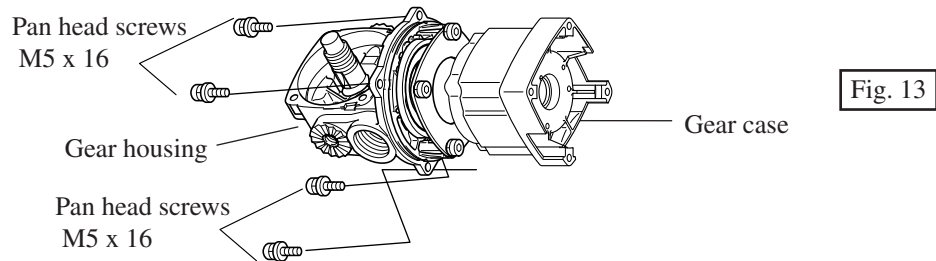

Fig. 13
- ( 1 ) After taking off spur gear 40 as illustrated in Fig. 3 and Fig. 4, unscrew 4 pcs. of pan head screws M5 x 16 and separate gear case from gear housing as illustrated in Fig. 13.